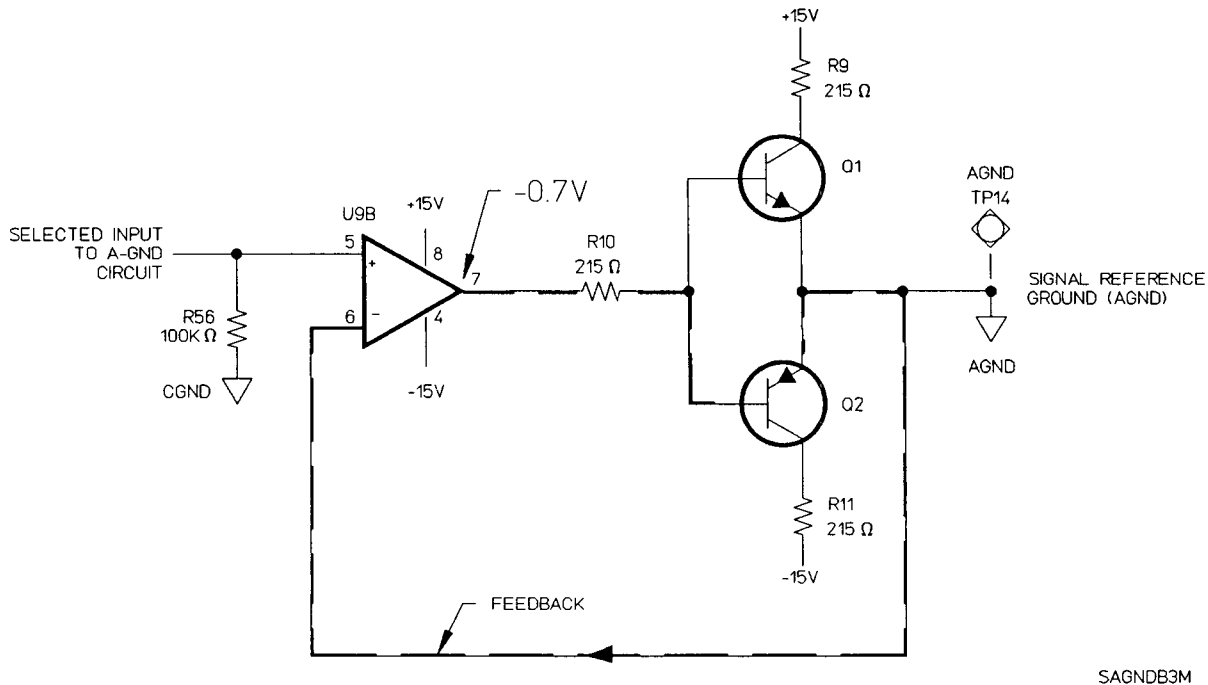

Figure 8-5. A-GND Circuit Showing Feedback Path
If these voltages are not  $0 \pm 0.01$  volts, check A8U9, A8Q1, A8Q2, and associated discrete components. Under normal conditions, the voltage at A8U9(7) is  $-0.7 \pm 0.1$  Vdc. *Figure 8-5* shows the feedback path for the A-GND circuit.